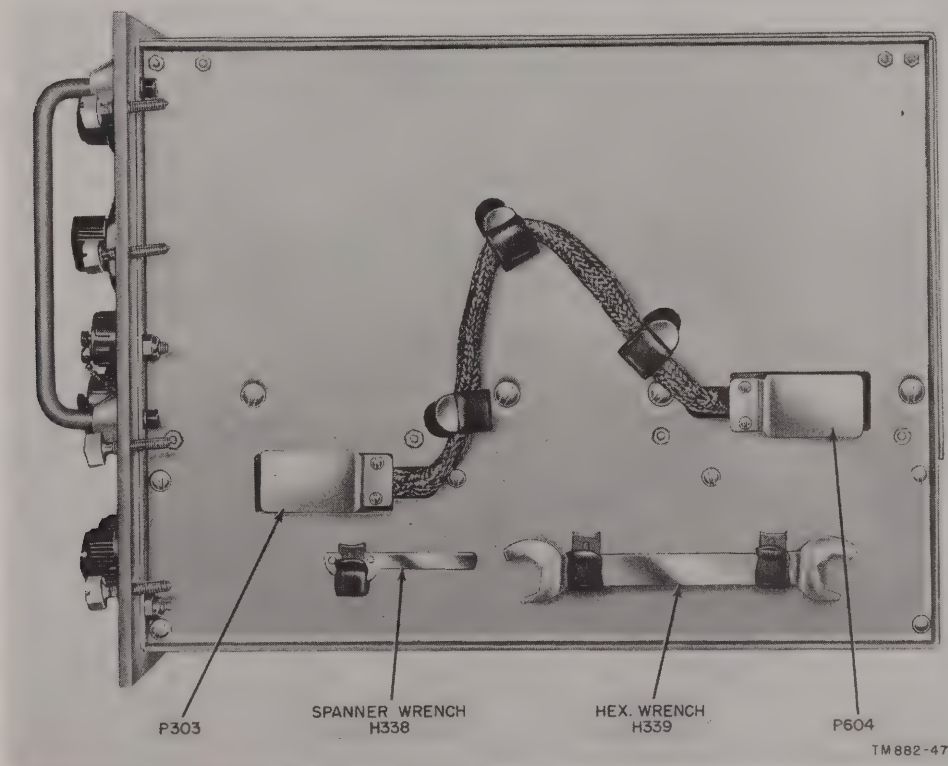
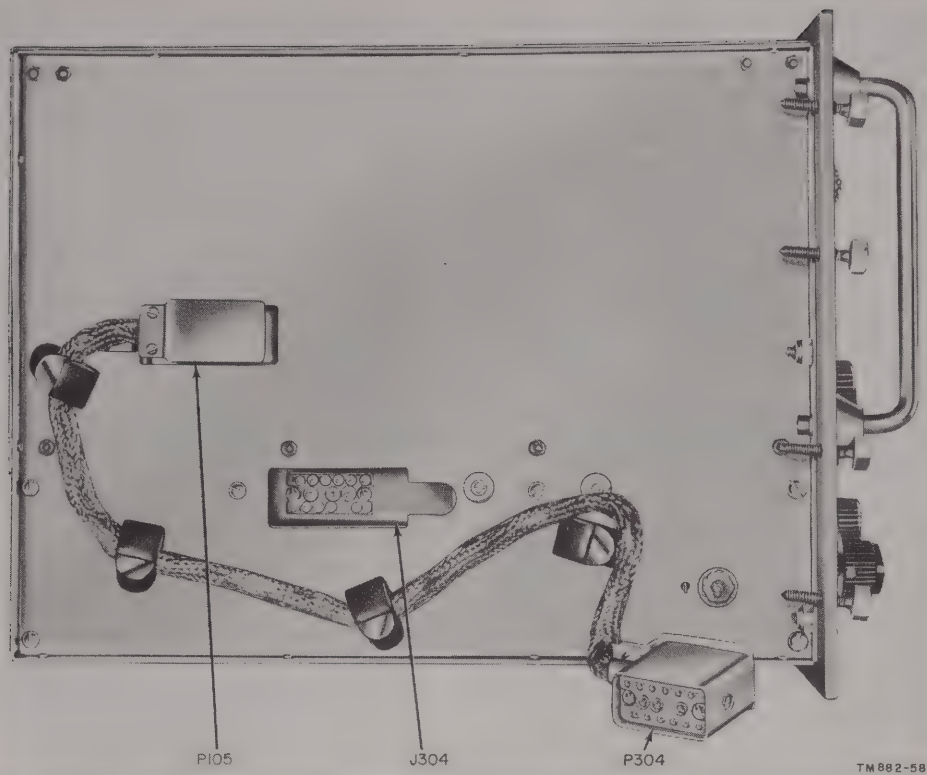

Figure 14. Radio Receiver R-220/URR, cable connections on power supply side of main unit.
Figure 15. Radio Receiver R-220/URR, cable connections on r-f side of main unit.
b. Interconnection of Units (figs. 14 and 15). Radio Receiver R-220/URR is made up of three major components: the r-f unit, the main (base) unit, and the power supply unit, PP-660/URR. These three units are interconnected by two power cables and one coaxial cable. The coax connects the r-f unit with the main unit. The power supply and main unit are interconnected by a power cable on the right-hand side of the receiver (see fig. 14); the main unit and r-f unit are interconnected by a similar cable on the left-hand side of the receiver (see fig. 15). Before attempting to disassemble the receiver units, always disengage both power cables from their recessed jacks and remove the
d. Remove the receiver from the case and inspect the two cable connectors and their respective plugs and connector receptacles for contact, looseness, cracks or other damage (figs. 14 and 15).
e. Check and inspect the wrenches and alignment tool which are fastened to the outside of the main unit (figs. 14 and 19).